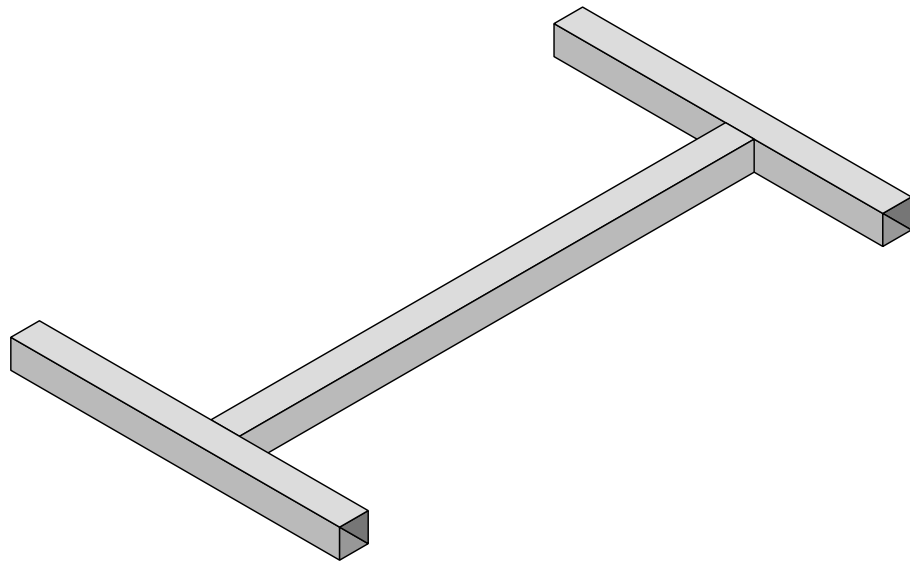

Figure 4: a finished centre frame.
- 3) Then make up the frame that goes in the middle (as shown in Figure 4) - the one which supports the axle.